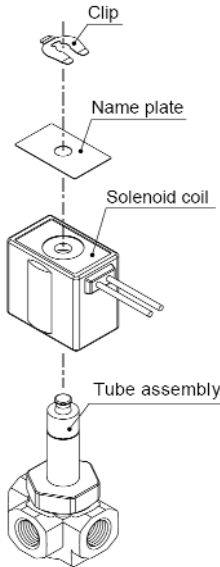

Figure 14
6.3 Solenoid Coil Replacement (see Figure 14)